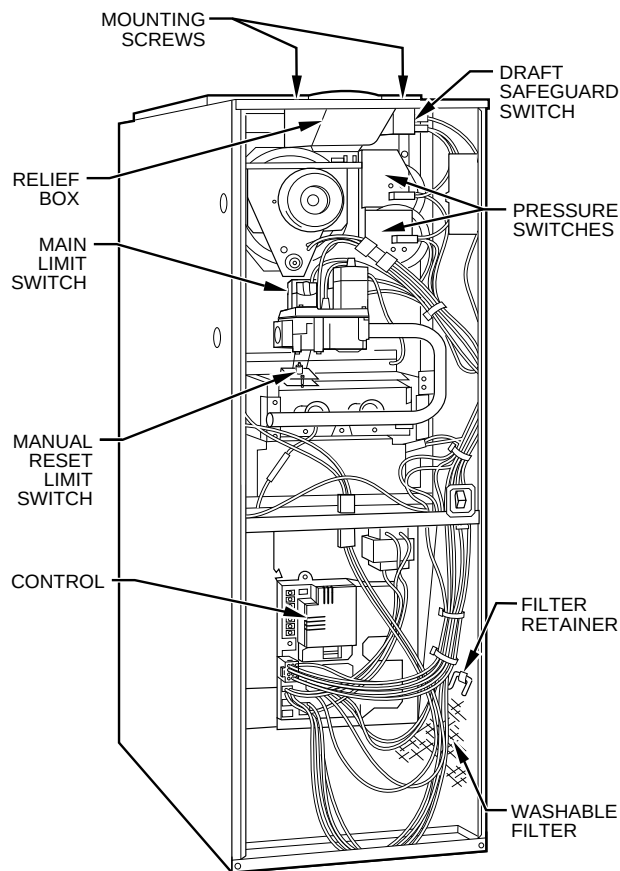

Fig. 6—Model 330AAV Upflow
Each furnace requires 1 or 2 filters which are installed in the blower compartment. (See Fig. 6.) To remove filters for cleaning or replacement, proceed as follows:
- Release filter retainer from clip at front of furnace casing. (See Fig. 6.) For side return, clips may be used on either or both sides of the furnace.
3. Disconnect blower electrical leads from control. (See Fig. 6 and 7.) Note location of wires for reassembly.
4. Remove 2 screws that secure relief box. (See Fig. 6 or 7.)